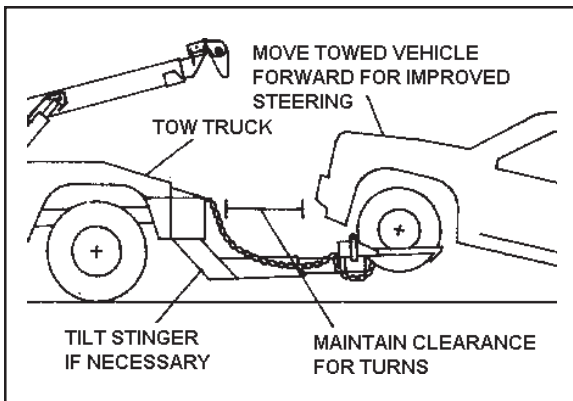

Figure 4-7.
14. Position the underlift so the towed vehicle is in position for towing. You may need to temporarily tilt the stinger to gain extra clearance at the vehicle's air dam or under parts as you move it into position for towing. The vehicle should be positioned as far forward as possible while maintaining clearance for turns. This keeps more weight on the front wheels of the tow truck for safer steering. Tilt the stinger as needed to clear the under carriage of the disabled vehicle, but keep the stinger as close to horizontal as possible. (See figure 4-7.)